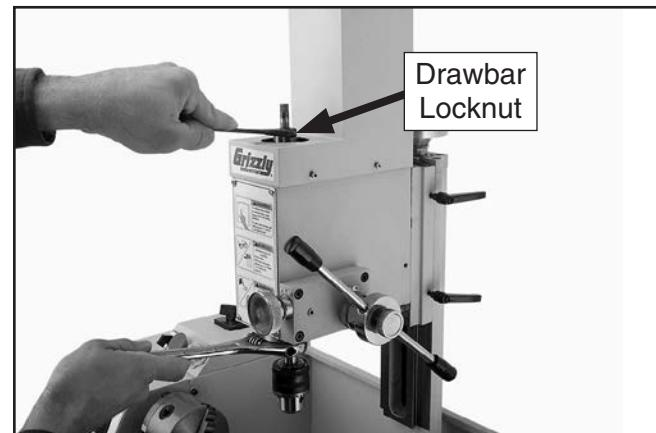

Figure 113. Tightening drawbar lock nut.
6. Tighten drawbar lock nut, as shown in Figure 113.
3. Loosen drawbar lock nut (see **Figure 113**) on previous page.